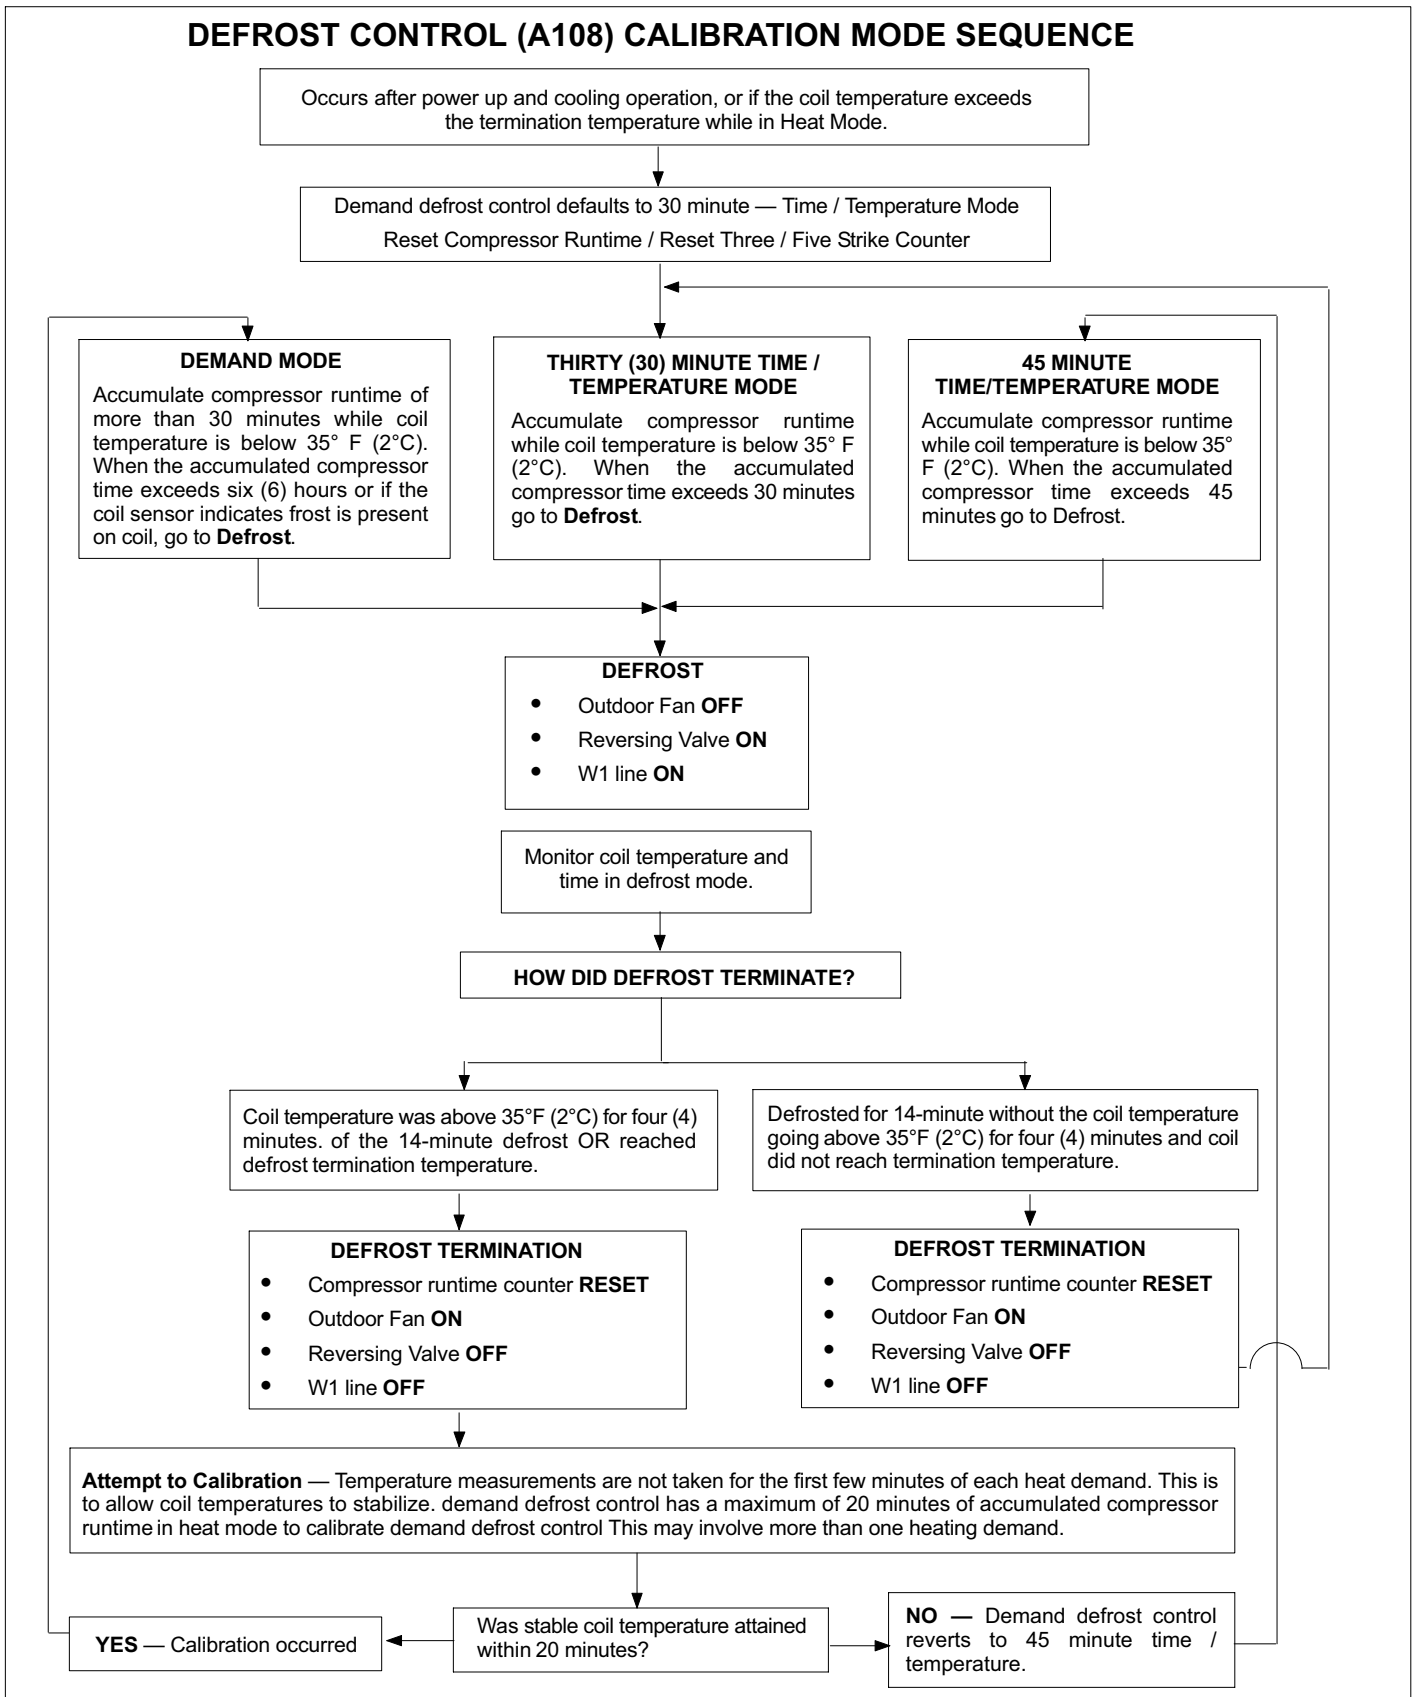

Figure 26. Defrost Calibration
1. **Calibration Mode** — The demand defrost control is considered uncalibrated when power is applied to the demand defrost control, after cool mode operation, or if the coil temperature exceeds the termination temperature when it is in heat mode (see figure 26 for further details).